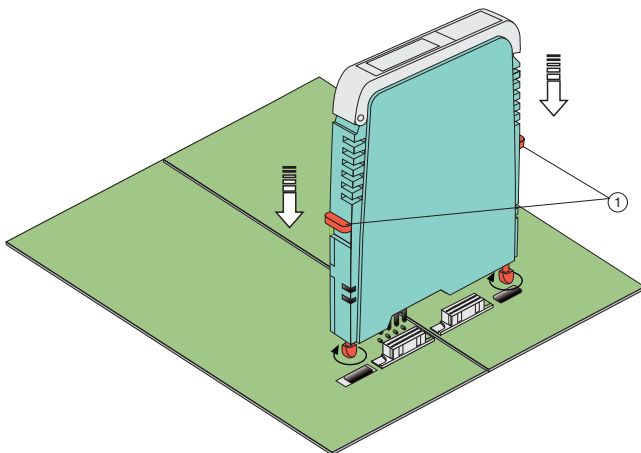

Figure 7 Proper mounting of an HiDMux2700 module
- Ensure that the red Quick Lok Bar (1) is in the upper position
- Press the red Quick Lok Bar (1) down on either side of the device (see Figure 7)